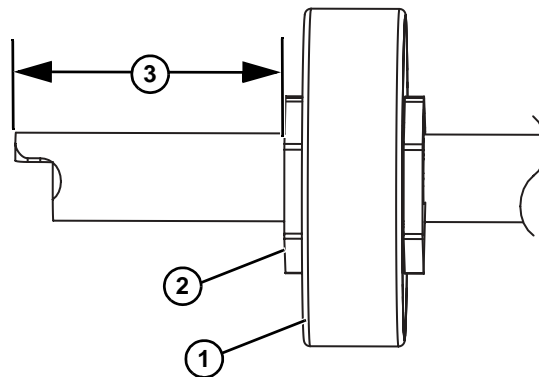

Figure 207
When assembling pucks (Figure 207, item 1) with retainer plates (Figure 207, item 2), make certain that there is a minimum of 38 mm (1.5") of clearance (Figure 207, item 3) on each end.